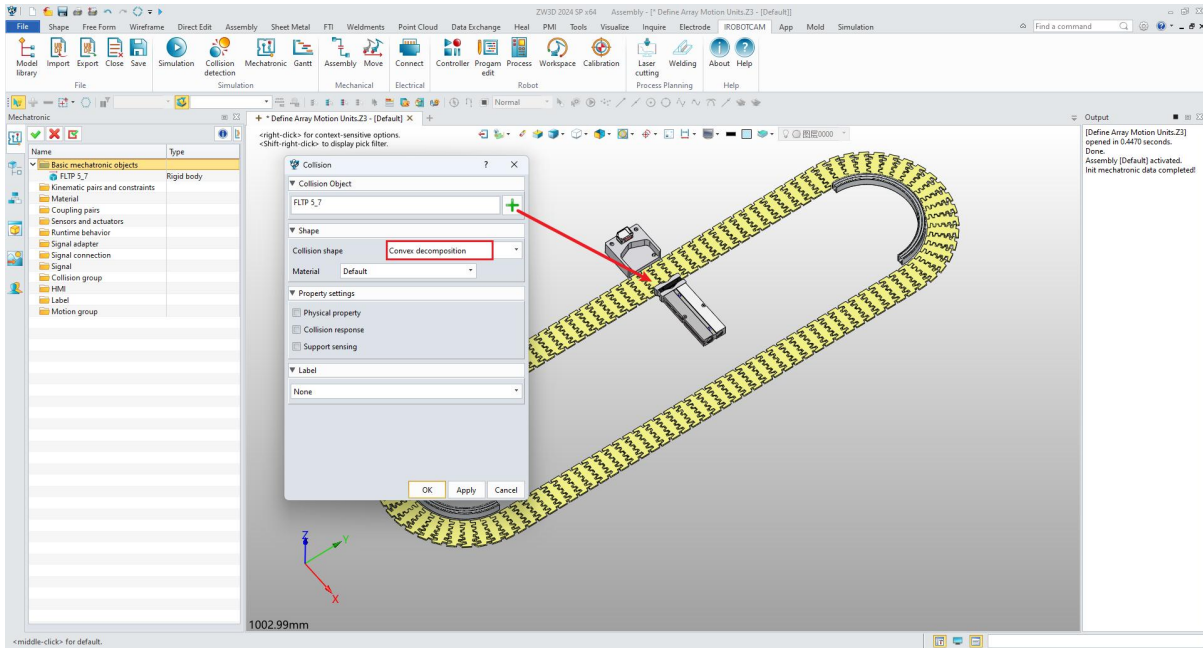

Figure 7-8: Collision Information
- Click "OK" to create the Collision body for "FLTP5_7". (Figure 7-8)